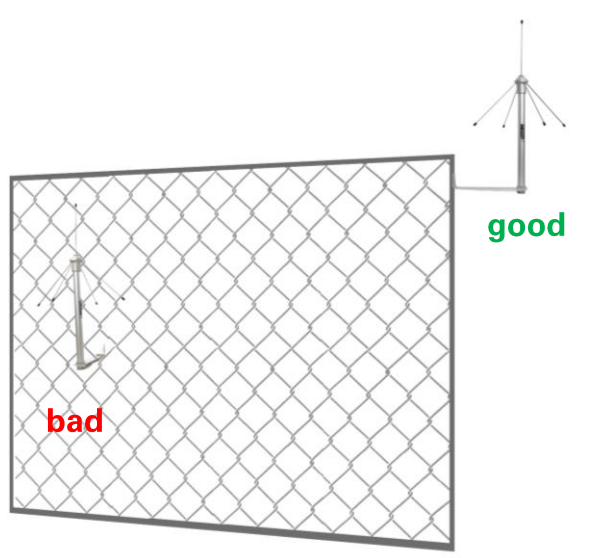

Figure 15: good/bad example: place the antenna against a fence
- The surrounding must be free of metal objects. Thus, don't place the antenna against metal substructures or flat against fences (Figure 15). If the antenna is being mounted against a metal construction (for example: a substructure of a building or a metal fence), make sure that the antenna mounting bracket is electrically conductive connected to the construction (so, the antenna is earthed via the construction). The connection can be accomplished, by fastening the antenna with metal screws.